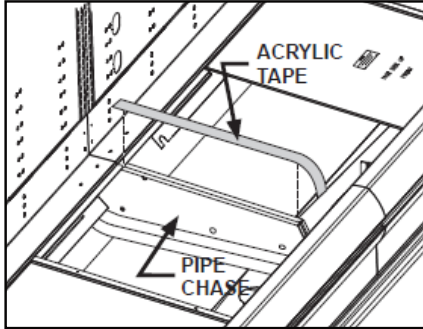

Fig. 65 Sealing the pipe chase
1. Seal the interior case-to-case joints with the caulk, and then the acrylic, tape from the ship-loose parts applied over the pipechase seam (Fig. 65). The tape acts as a watershed preventing water from settling in the case joint.